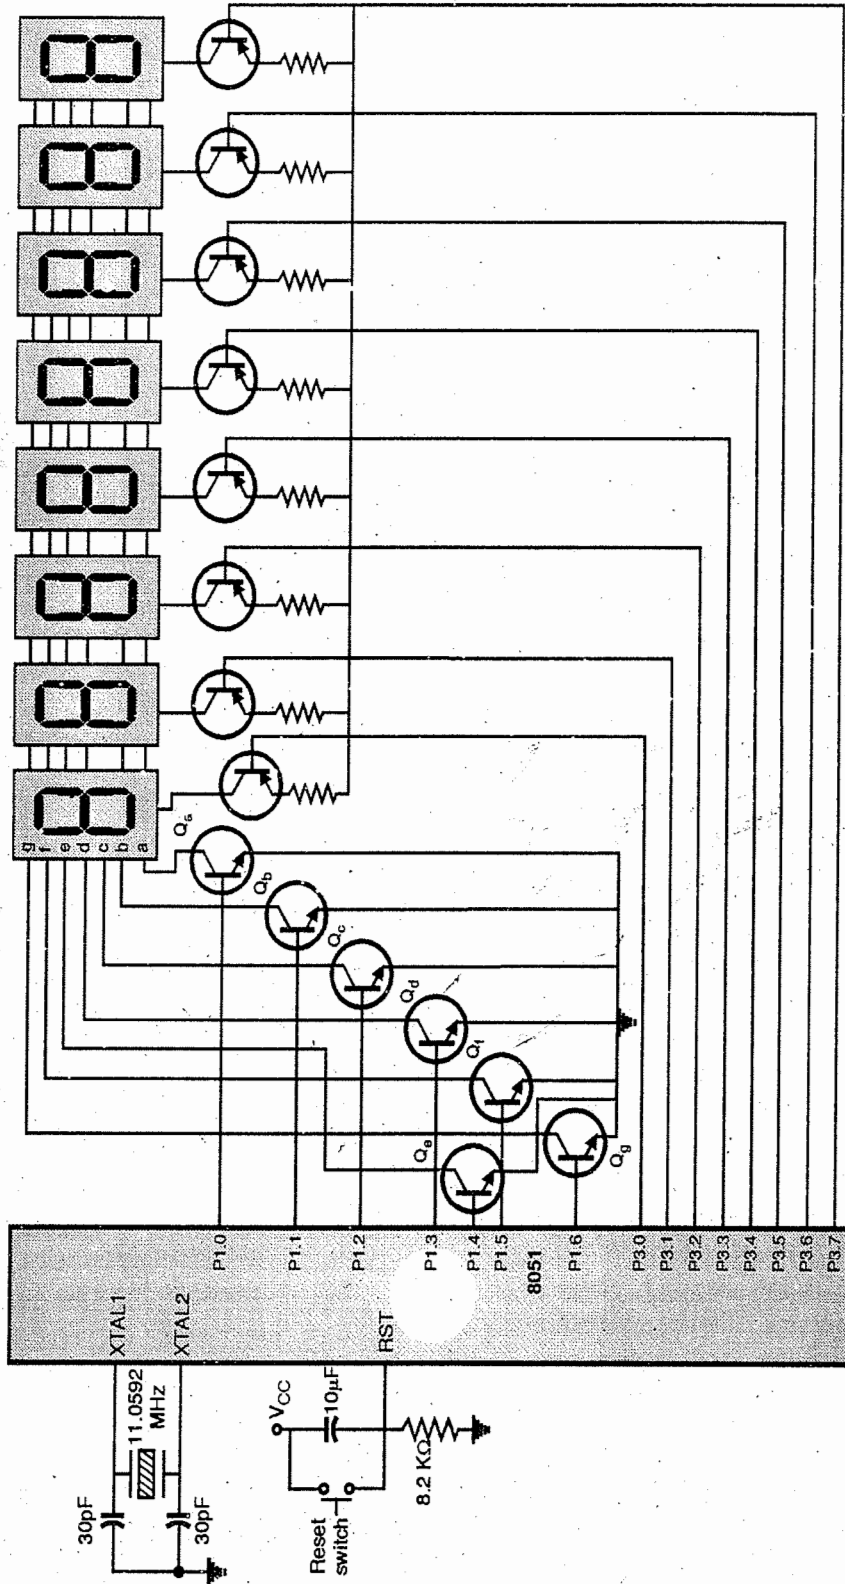

Fig. P. 2.6.1
**Soln. :** Fig. P. 2.6.1 shows a multiplexed 8 digit 7 segment LED display connected in 8051 system using Port 1 and Port 3. Both the ports are used as output ports. Transistors are used to drive LED segments.